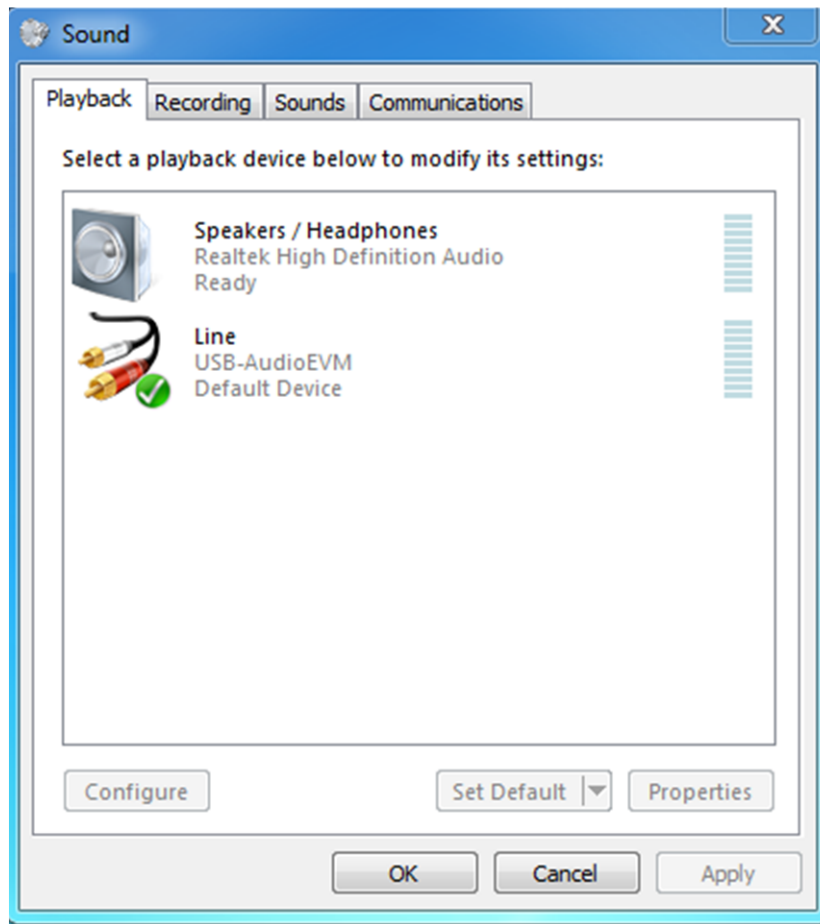

Figure 5. Playback Device Settings
- Verify that the computer has set the PurePath Motherboard as the default playback device by opening the sound dialog from the windows control panel (see Figure 5)